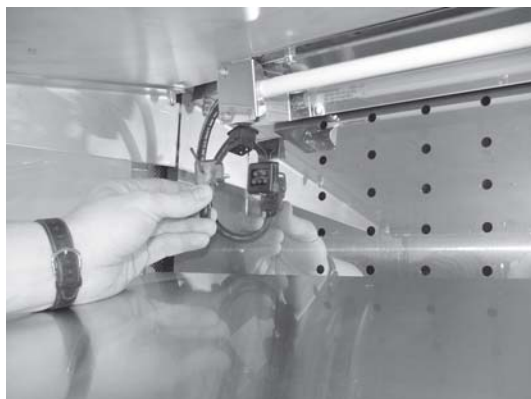

Figure 1
1. Unplug both sides of the shelf with the faulty lamp socket. Figure 1.